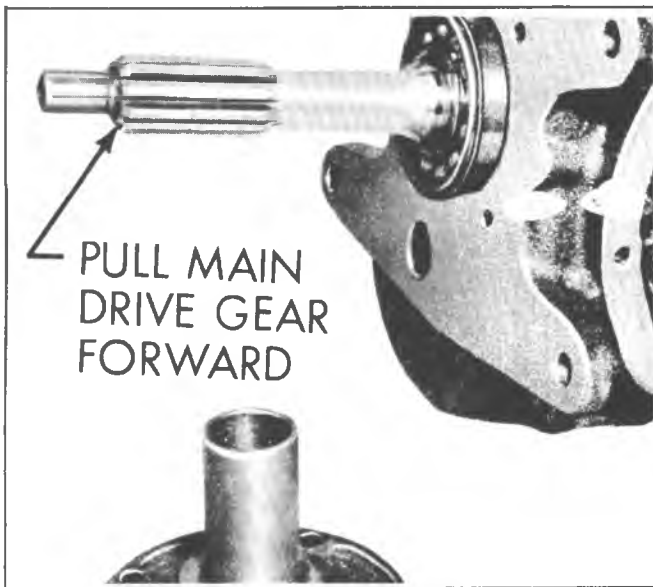

Fig. 7B-2J--Removing Clutch Gear Bearing
8. Remove reverse idler gear stop ring. Use a long drift or punch through the front bearing case bore and drive the reverse idler shaft and woodruff key through the rear of the case (Fig. 7B-6J).